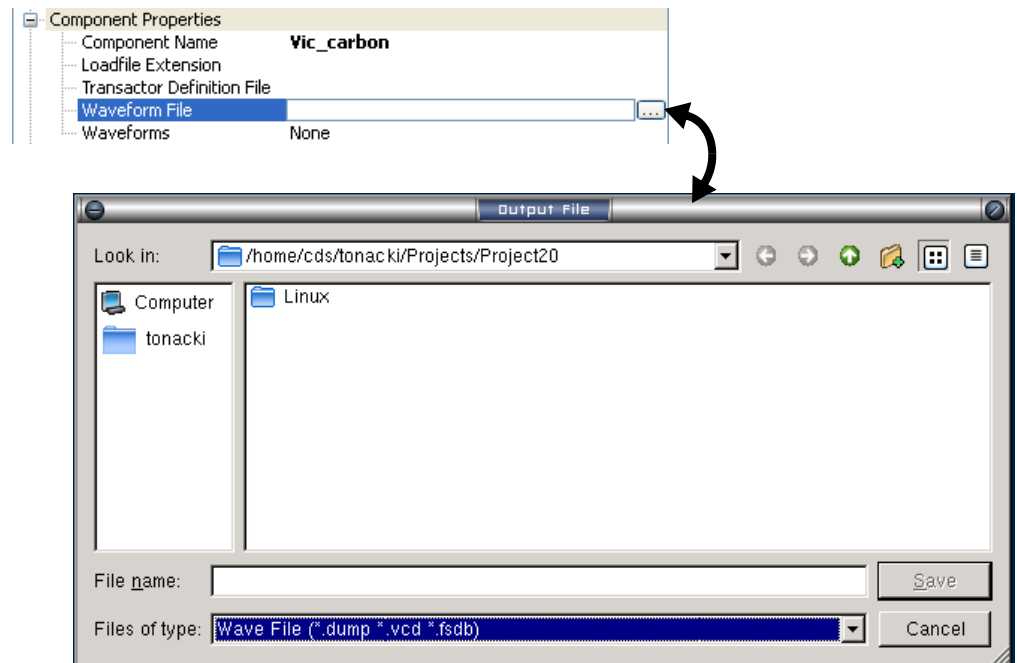

Figure 4-5 Enable Waveforms in SoC Designer Component
1. In the *Properties* view, under the *Component Properties* section, click the **Browse** button in the *Waveform File* field to display the *Output File* dialog (Figure 4-5).